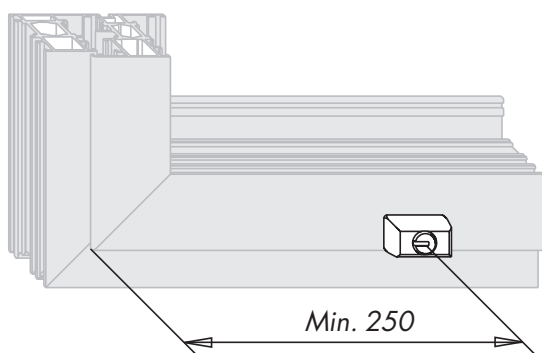

Figure 1
Pre drill the holes in the sash for the Turning Lock ALU (1) (Figures 1 and 2) .
Position the Turning Lock ALU (1) in the corresponding holes  $\varnothing 12,5$  (Figure 1) and secure with the set screws (2) (Torque  $2,5 \pm 0,25$  Nm).